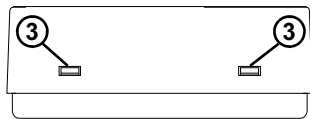

Fig. 3
- 1.** Remove the front cover by disengaging the two plastic teeth on the right hand side of the case as shown in Figs. 3 & 4.